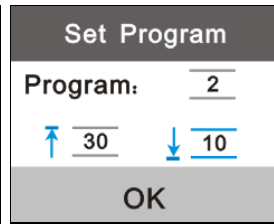

Fig 3.6 Lower Limit Setting
- e. Move the cursor to the lower limit setting box (as shown in Figure 3.6), using <  **Up** > key or <  **Down** > key to set the value (range: 1~9999) and press <  **OK** > for confirmation and return to the setting interface;